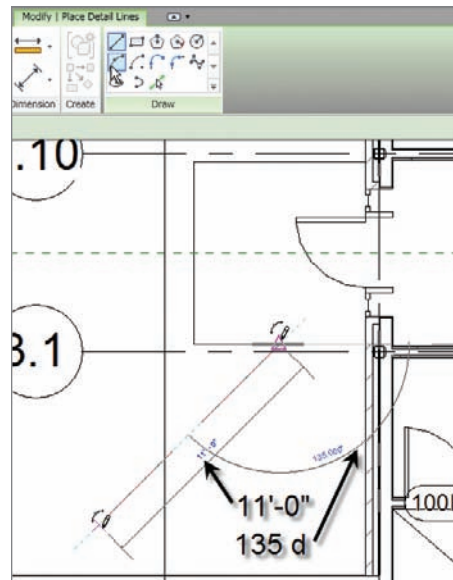

FIGURE 10.36 With the Start-End-Radius Arc, first start at the midpoint of the landing, then go southwest at an angle of 135° and a distance of $11'-0"$.
3. On the Draw panel, click the Start - End - Radius Arc button, as shown near the top of Figure 10.36.
4. For the first point of the arc, pick the midpoint of the landing, as shown in Figure 10.36.
6. Extend your cursor $11'-0"$, as shown in Figure 10.36, and then click to set the second point.